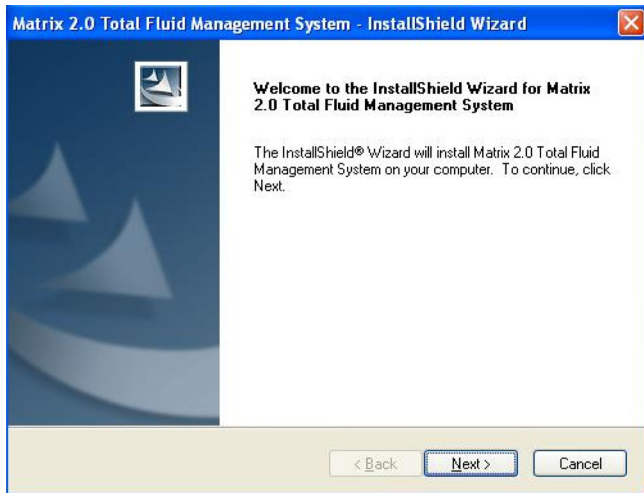
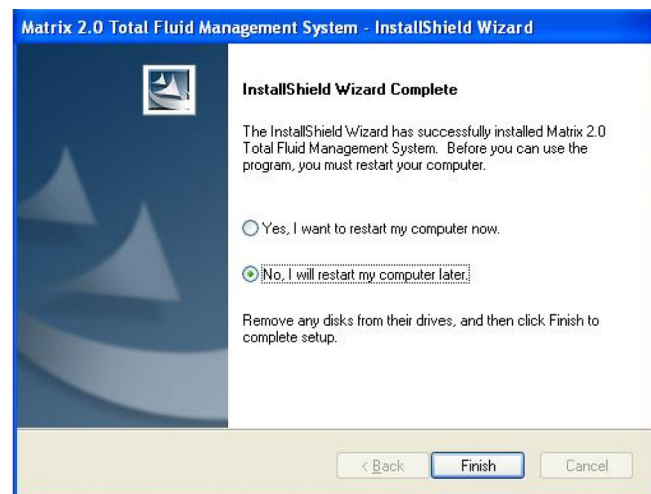

FIG. 26 Setup Path 1 - InstallShield Wizard
FIG. 34 Setup Path 2 - Setup Complete
FIG. 26 through FIG. 34.
- The setup program should start automatically. If it doesn't, open Windows Explorer (**Start / All Programs / Accessories**). Locate the CD-ROM drive letter under **My Computer** and double-click the **Setup Executable File**. Click **Next** (FIG. 26).
- Matrix software installation is complete, however, there are several configuration settings to check and/or set. Select "No, I will restart my computer later" (FIG. 34). Click **Finish**.